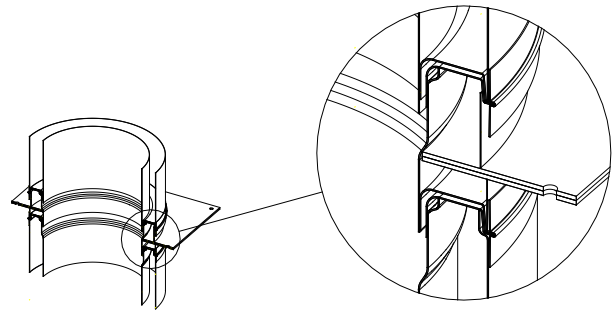
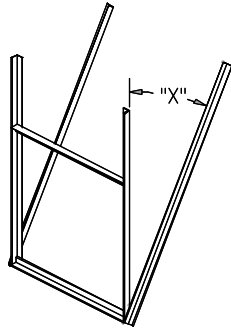

Figure 20 - Length Anchor Plate (APL)
Figure 22 - Homemade brace
2. The plate support must be attached to the building structure or supported with rigid structural members (see **figure 22** and **table 12** for bracing dimensions)
1. Use for same application as the anchor plate (AP).
2. It is composed of a straight section - with an effective length of 3 3/4" integrated into a support plate (see **Figure 20** for the detail of the part).
3. Unlike the anchor plate (AP), the Length Anchor Plate (APL) doesn't need any clamp flange (and its hardware) for its installation, so it is easier and faster to install.
4. The APL must be attached to the building structure or supported by rigid NON-COMBUSTIBLE structural members (see **Figure 22** and **Table 12** for bracing dimensions).